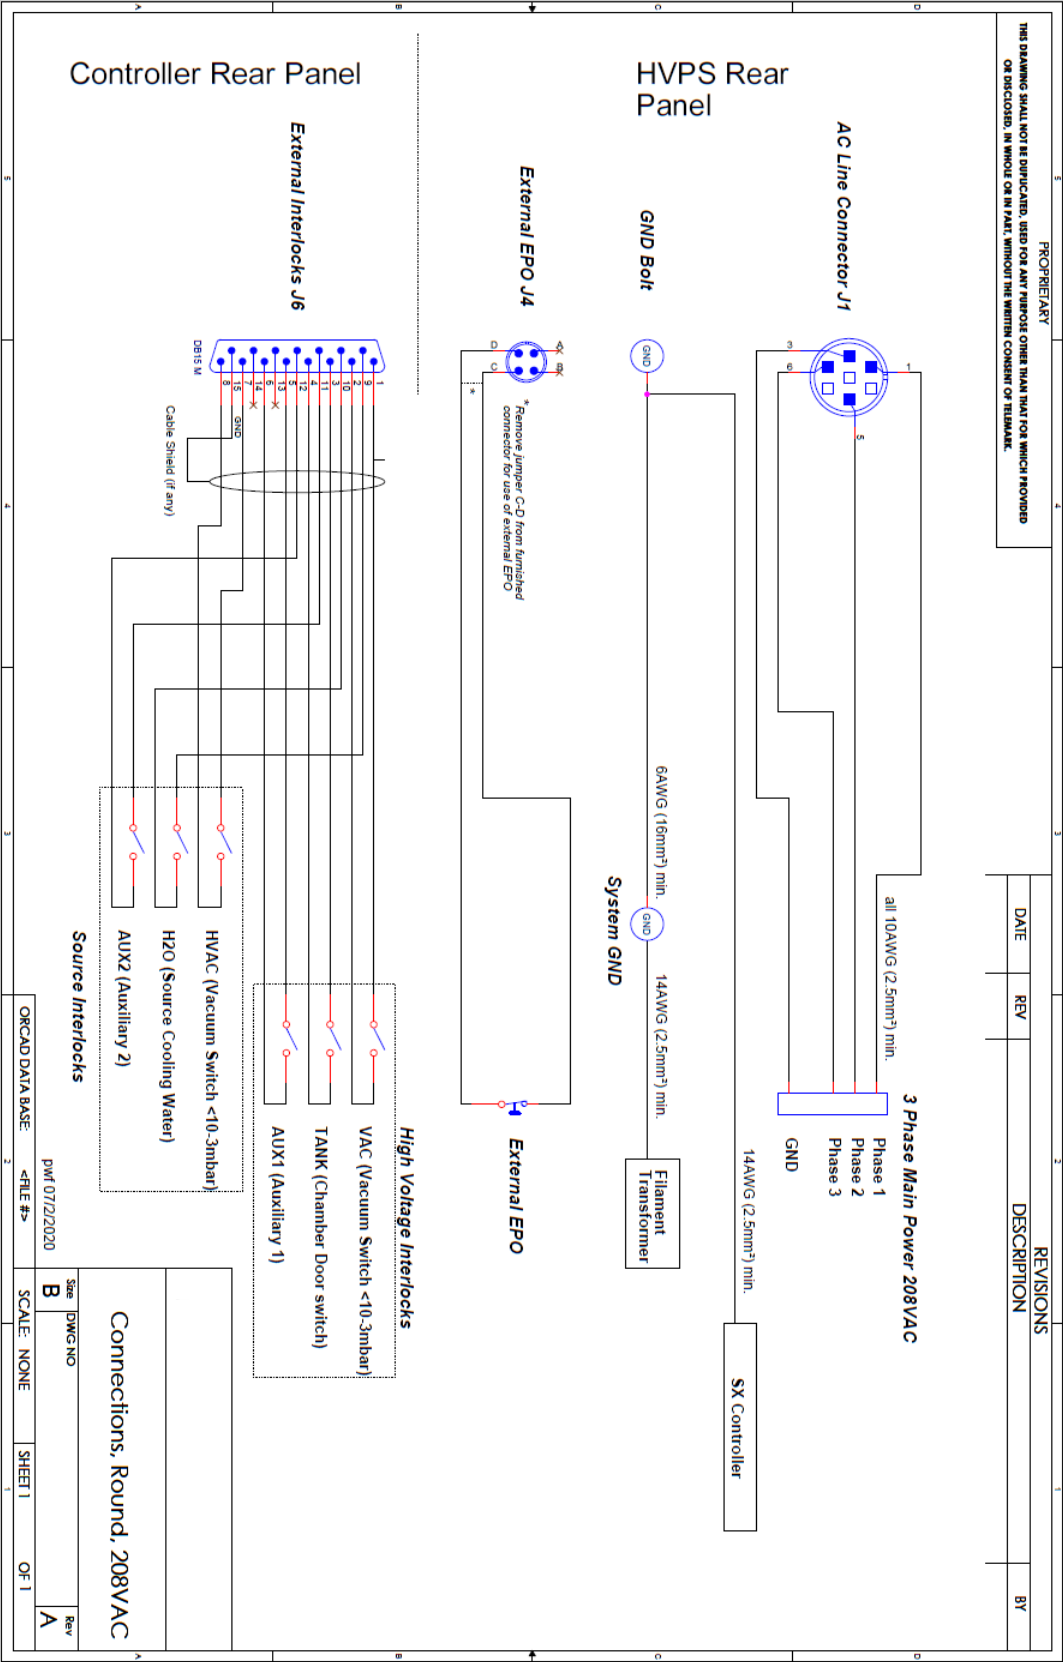

Figure 9-1, Connections SVA series 208VAC Round Version
- Figure 9-1 Connections SVA-4/6/8/10/12, Round Connector,